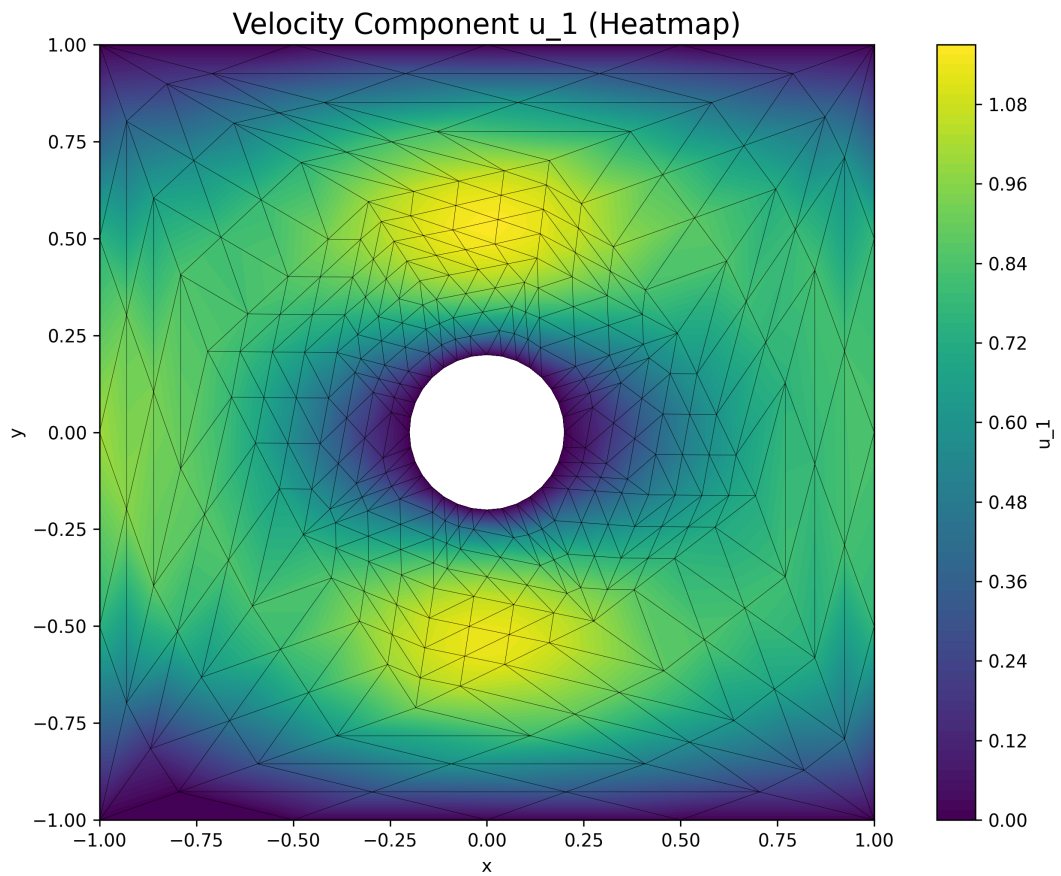

Figure 2: x-direction of the velocity field for the Stokes flow around a cylinder in a channel.
- c) Verify your implementation. The velocity field in x-direction should look like in Figure 2.